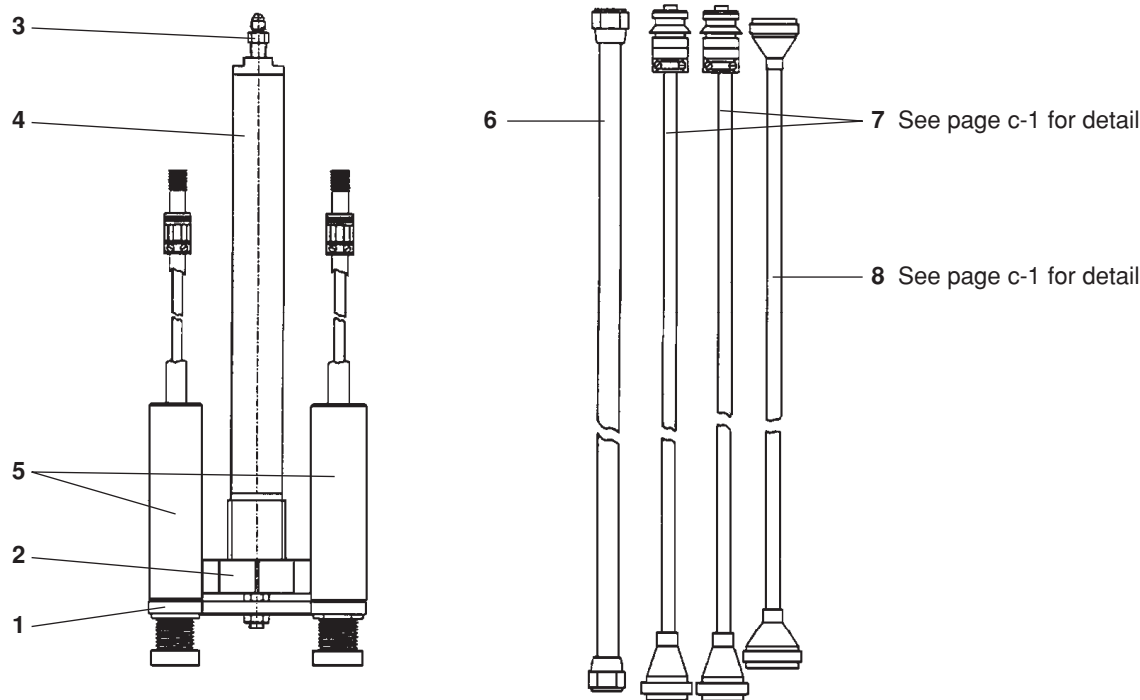

Figure c-2 Inductive IHS Torch Mounting Assembly with Interconnecting Leads for IHS Assembly
* Item is not shown in Figure c-2.